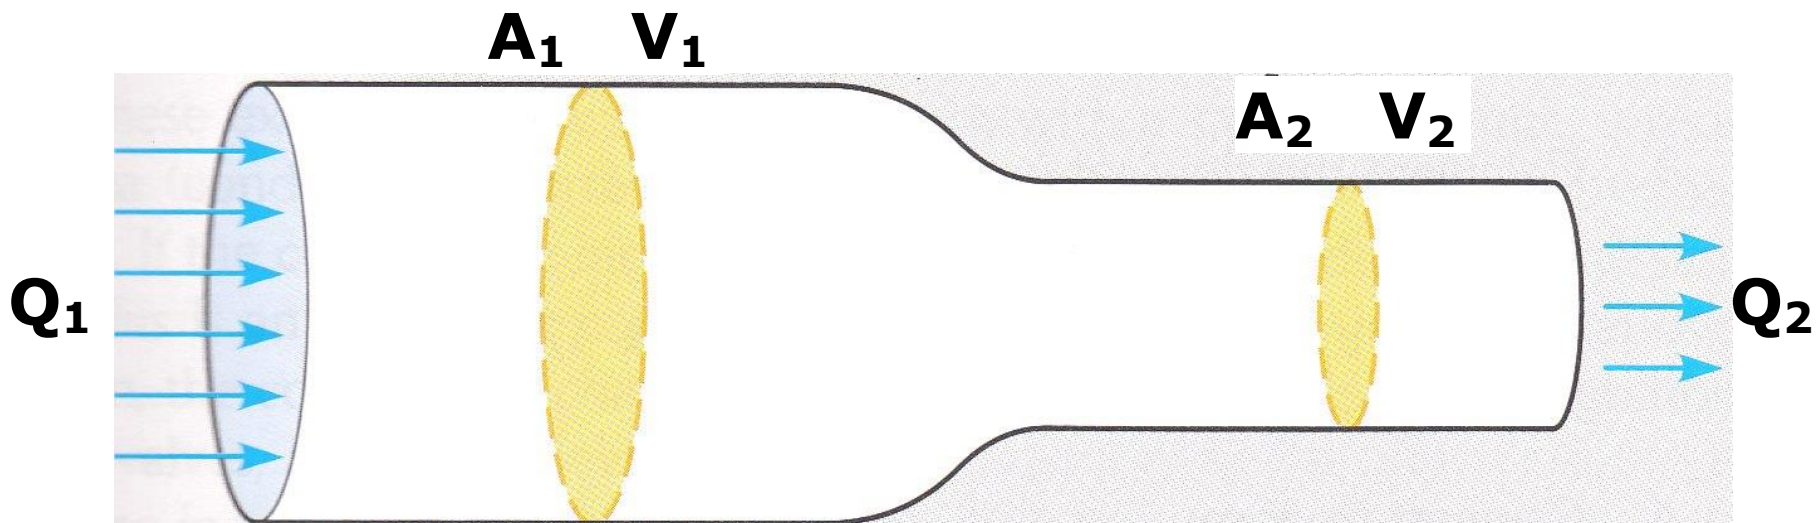

Fig.1.12: Continuity of flow.
Hydraulic systems commonly have a pump that produces a constant flow rate. If we assume that the fluid is incompressible (oil), this situation is referred to as steady flow. This simply means that whatever volume of fluid flows through one section of the system must also flow through any other section. Fig. 1.12 shows a system where flow is constant and the diameter varies
- A fluid flows at a velocity of 0.2 m/s at point 1 in the system shown in Fig. 1.12. The diameter at point 1 is 50mm and the diameter at point 2 is 30 mm. Determine the flow velocity at point 2. Also determine the flow rate in m/s.